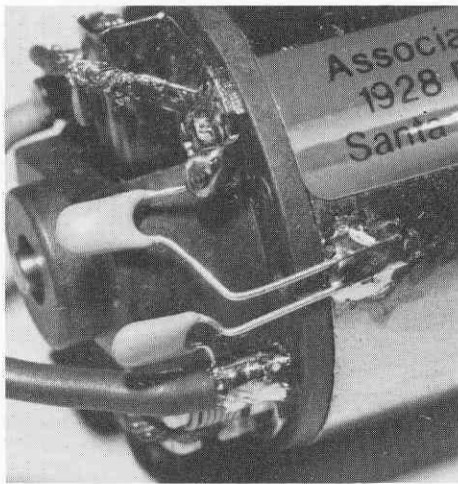

Fig. 138
□ **Fig. 138 & 138a** Time to put the horsepower in the car. Using ROSIN core solder, solder the motor lead wires and filter capacitors to the #6500 motor, as per the instructions included in the motor bag. From Bag #6-15, take the #6659 motor pinion and install the pinion, as shown. The end of the pinion should be even with the end of the shaft.